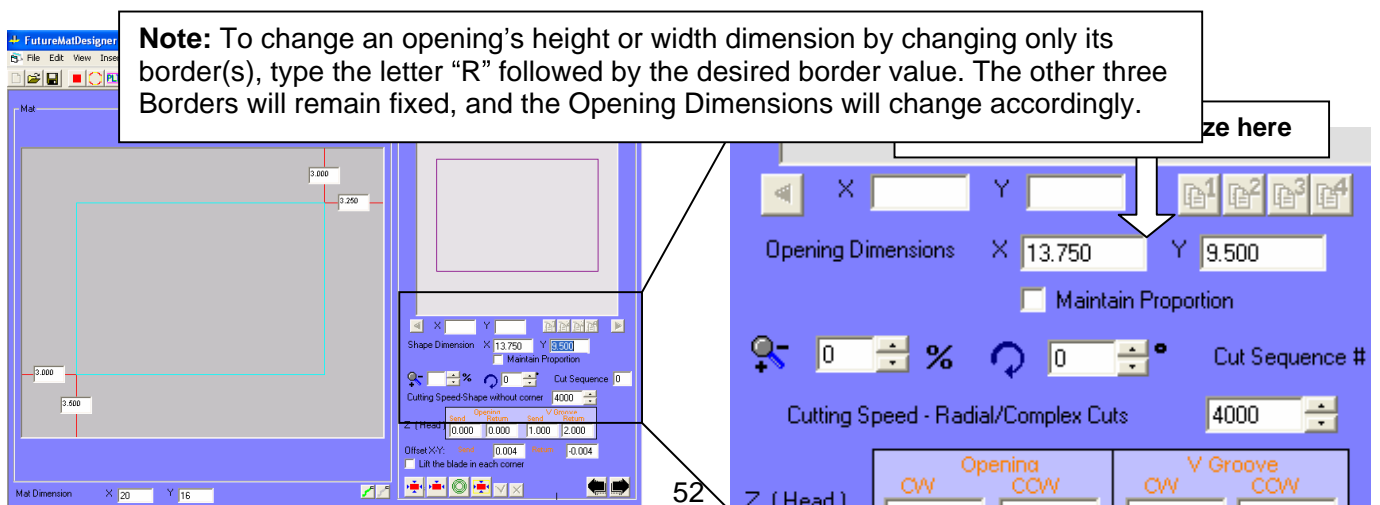

Figure 2.32
The selected Shape will then appear in the mat design screen. If borders were entered in the Open menu, the shape opening will be sized according to the existing mat size dimensions, and centered on the mat. If Borders were *not* designated, you may type in the opening size in the “Shape Dimensions” entry boxes (Figure 2.32). For this example, enter a width (X) dimension of 13.75”, and a height (Y) dimension of 9.5”.